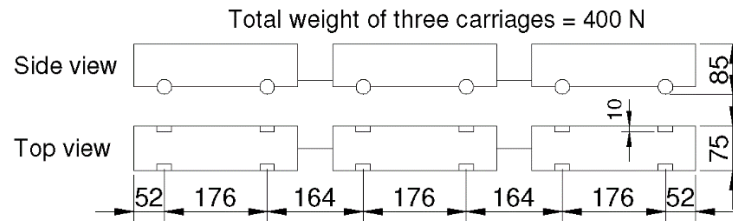
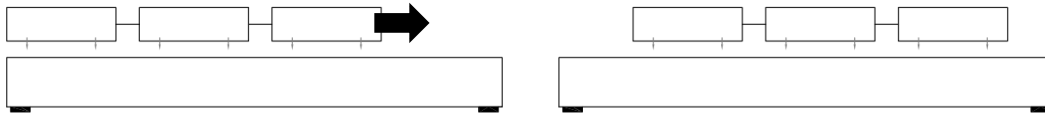

Figure 4. Train dimensions.
Figure 5. Loading schematic showing the movement of the train from left to right.
A train comprised of three (3) cars will be pushed across your bridge. The dimensions of this train (in millimetres) and an illustration of the train movement are shown in Figure 4 and Figure 5. Note the train may also traverse the bridge in reverse, meaning it can also move from right to left.